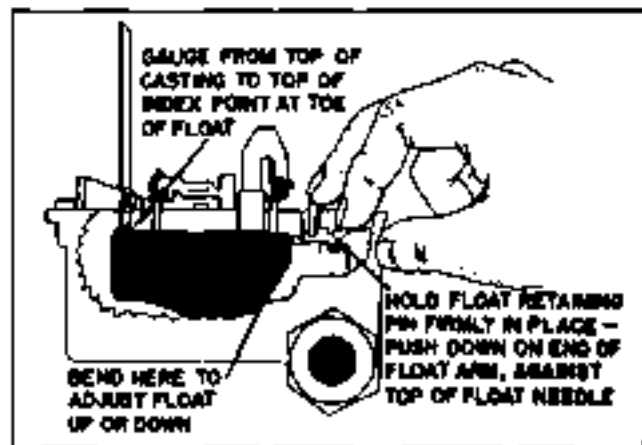

Fig. 6B-18 Float Level Adjustment
17. FLOAT LEVEL ADJUSTMENT (Fig. 6B-18)